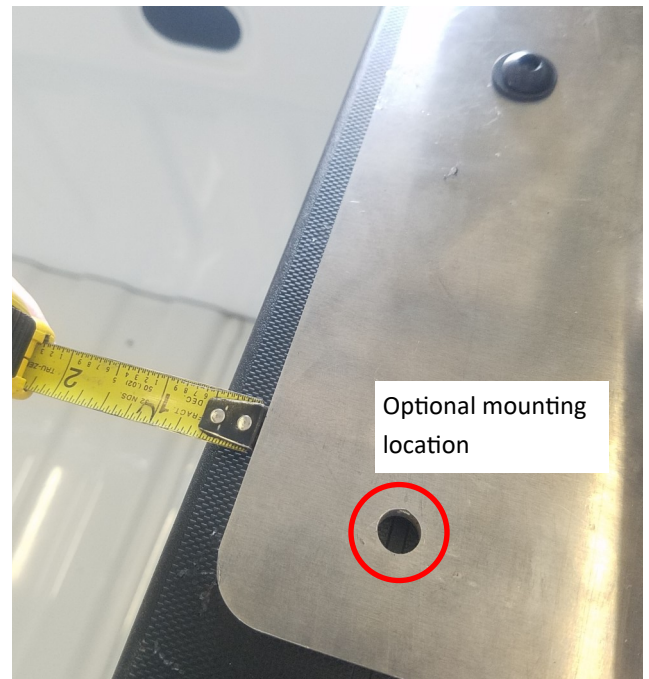

Figure 4: Aligning headache rack. Optional mounting point circled.
- Align headache rack, making it flush with the front of bed cap. Use tape measure to make the gap between mounting feet and edge of bed cap equal on both sides (**Figure 4**).
- Optional step:** For extra rigidity, use drill and 5/16" drill bit to drill a hole in bed cap. Make sure headache rack is properly aligned before drilling. Use 5/16" x 1.25" long bolt and flange locknut to fasten rack to bed cap (**Figure 4**).